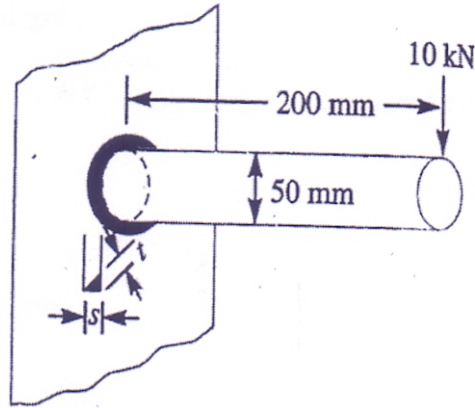

Figure 4
- Q.4 a) A 60 mm diameter solid shaft is welded to a flat plate as shown in figure 4. If the size of the weld is 15 mm, find the maximum normal and shear stress in the weld. (10)